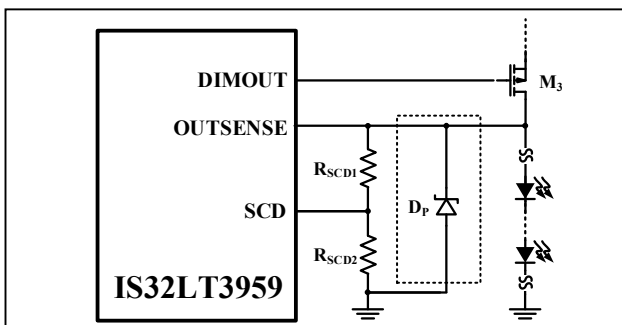

Figure 59 Schottky Diode for Hot Plugging Protection
- (4) Connect the bootstrap capacitor, C_{BST} , close to the BST and SW pins.
- (5) The output OVP setting resistor divider, R_{O1} and R_{O2} , must be placed as close to FB and AGND pins as possible.
- (6) The LED short detection resistor divider, R_{SCD1} and R_{SCD2} , must be placed as close to SCD and AGND pins as possible.
- (7) The ground of the current sense resistor, R_{CS} , should be directly connected to SGND pin by a separate trace to prevent SGND plane jitter and ensure precise sensing.
- (8) To avoid ground jitter, the parameter setting components should be placed close to the corresponding pins and return to the AGND pin, and keep their trace length to the pins as short as possible. On the other side, to prevent the noise coupling, the traces of these components should either be far away or be isolated from high-current paths and high-speed switching nodes. These practices are essential for best accuracy and stability.
- (9) The capacitors C_{VCC} and C_{VDD} should be placed as close as possible to VCC and VDD pin for good filtering.
- (10) In practice, if the LED string is far away from the driver board and connected through long cables, the parasitic inductance in the cables will form a LC-resonant circuit with the C_{OUT} . In the case of hot plugging the output connector or an unreliable connector, this LC-resonant circuit will create oscillation on the OUTSENSE pin due to the C_{OUT} fast discharging. This oscillation could subject the OUTSENSE pin to negative spike voltages exceeding their Absolute Maximum Ratings that may permanently damage the OUTSENSE pin. Add a 60V/1A Schottky diode D_P from the OUTSENSE pin to GND (placed close to OUTSENSE pin) to avoid this negative spike voltage. Figure 59.